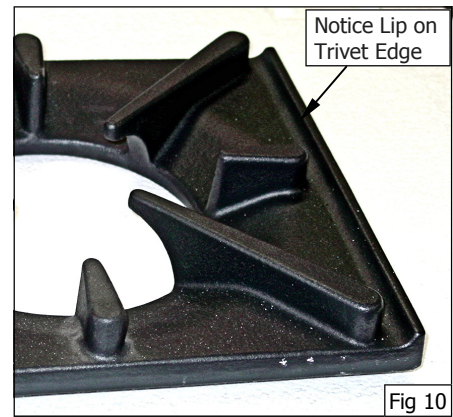

Fig 10
- Remove the trivets from the top of the appliance, taking note that the trivets are manufactured with a lip on one edge, the lip must always be fitted to the outer edge (front and back) of the cook top. (Refer to Fig 10 overleaf).
- d. Refit the trivets to the cook top, taking note that the trivets are manufactured with a lip on one edge, the lip must always be fitted to the outer edge (front and back) of the range. (See Fig 10).